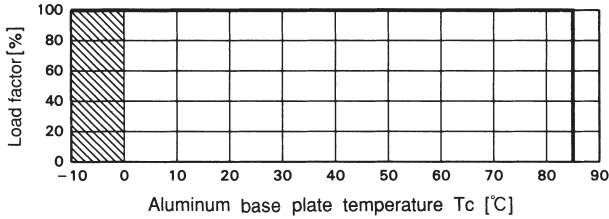

Fig.5.3 Derating curve
- Use with the conduction cooling (e.g. heat radiation by conduction from the aluminum base plate to the attached heat sink). Fig.5.3 shows the derating curve in terms of the aluminum base plate temperature. In the hatched area, the specification of Ripple, Ripple Noise is different on other area.